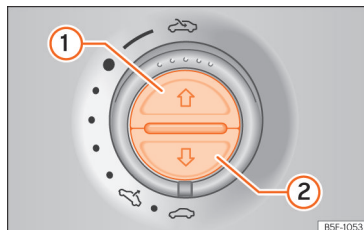

Fig. 112 On the interior roof lining: sunshade blind buttons.
- Press button » Fig. 112 ① briefly.
- *Sun blind*: within approximately 5 seconds of activating the roll-back function, press and hold button »» Fig. 112 ② until the blind is fully closed.